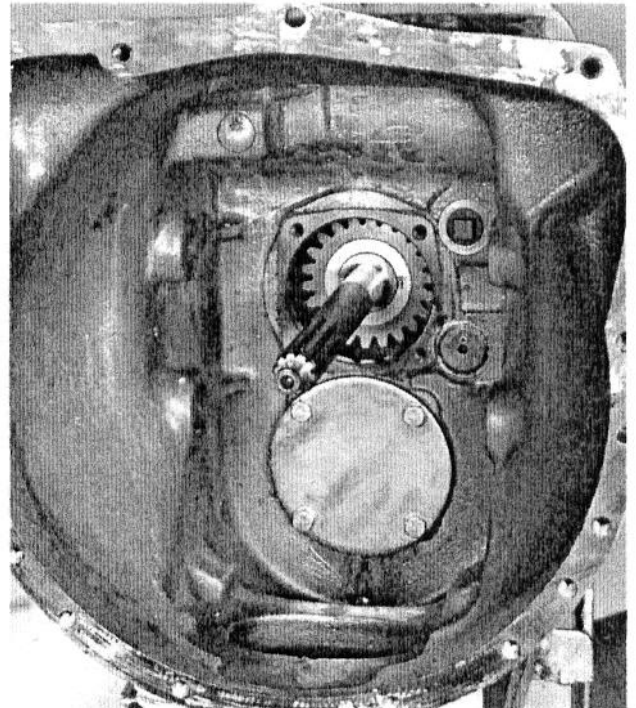

Fig. 21 - Thrust Washer and Shim Properly Positioned on Input Shaft
- c. Place grease on thrust washer and shim (to hold against pinion gear) and slide on input shaft and against pinion, as shown in Fig. 21.